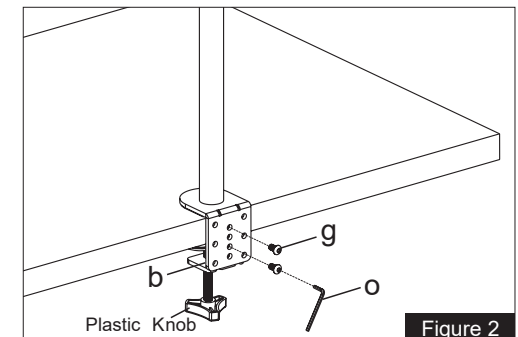

Figure 2
2. Install the "C" Clamp **(b)** to the pole assembly according to the thickness of the desktop. The thickness can be changed to three positions. Connect it using 2pcs M8x12 Bolts **(g)**, and tighten using the Allen Key **(o)**. Tighten the "C" Clamp to the desktop using the plastic knob, see Figure 2.